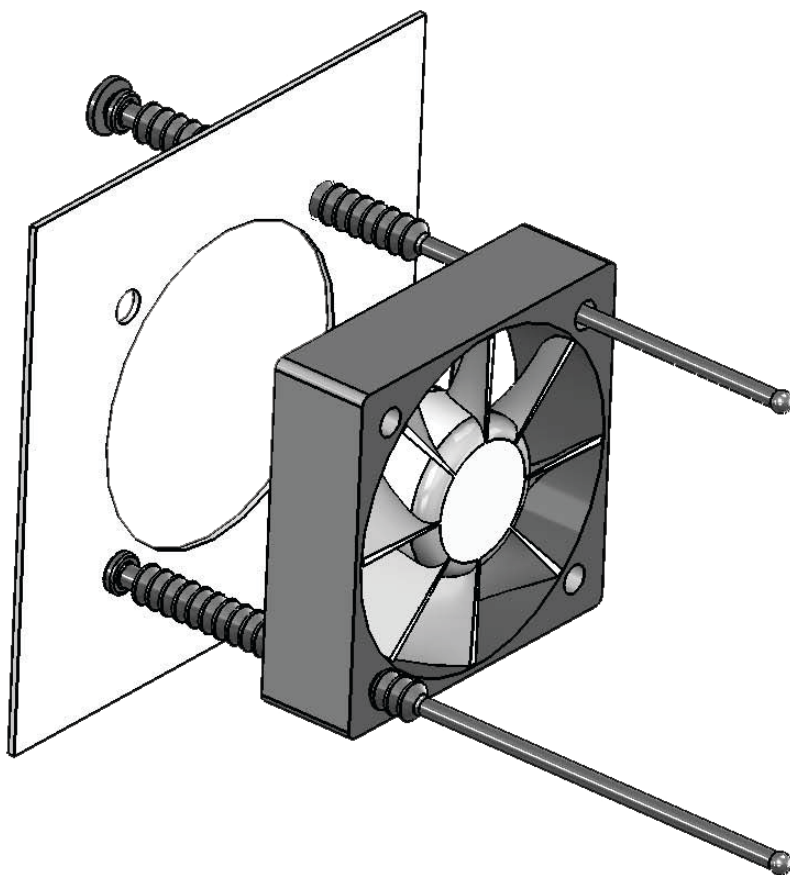

Figure 4-31. Fan Assembly Replacement
2. Use new silicone rubber fasteners (supplied with the replacement fan assembly). Pull the fasteners through the metal pan and the fan as shown in Figure 4-31 on page 4-40. Trim the fasteners after ensuring that the fan is firmly attached to the bracket.